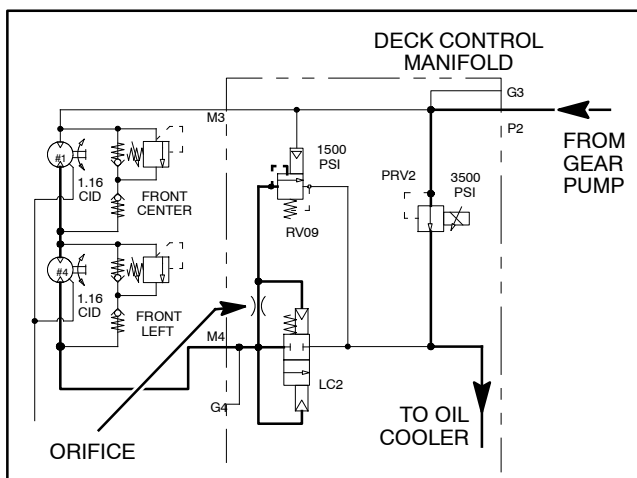

Figure 20
When the operator turns the PTO switch OFF (or if the decks are raised), deck manifold solenoid valves (PRV1, PRV2, SV1 and SV2) are de-energized. The valves will shift to direct oil away from the deck motors and toward the oil cooler and filter. Hydraulic pressure is reduced to the cutting deck motors which slows the cutting blades and also allows the deck manifold relief valve (RV) to shift. The shifted relief valve removes the flow path from the orifice at the logic cartridge, causing the logic cartridge to shift and block the return oil path from the deck motors (Fig. 20).